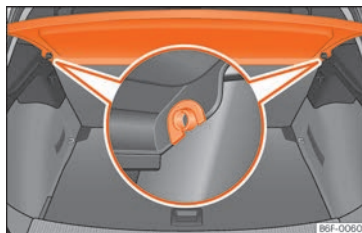

Fig. 146 In the boot: removing and installing the shelf.
- Remove the rear shelf from the side supports >>> Fig. 146 by pulling it upwards and then take it out.
- Insert the cover horizontally so that the "recess" fits onto the axis of the supports >>> Fig. 146 and press down until it engages.